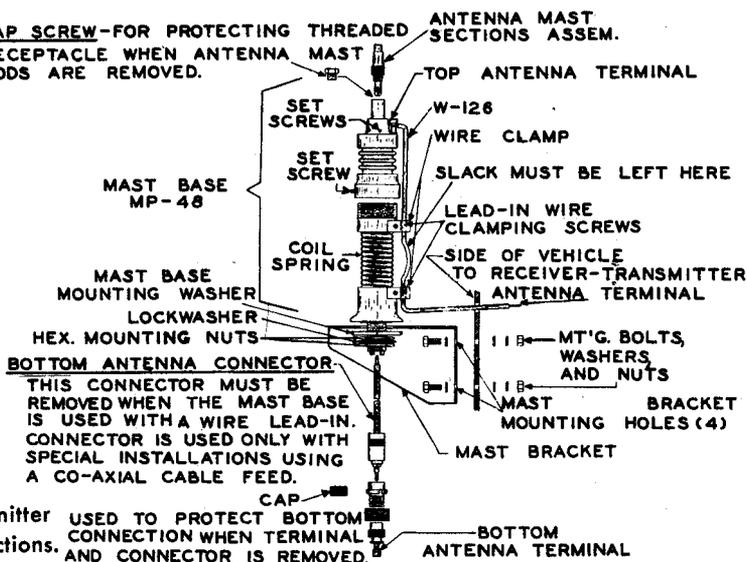

Fig. 4.—Vehicular antenna assembly.
2. For vehicular service, use mast type antenna consisting of Mast Section MS-53 screwed into Mast Base MP-48, and Mast Section MS-52 into the top of MS-53, followed by MS-51. The connecting wire, W-126, from the antenna mast to the antenna terminal of the radio set, should be *three feet, ± one inch*. SEE FIG. 4